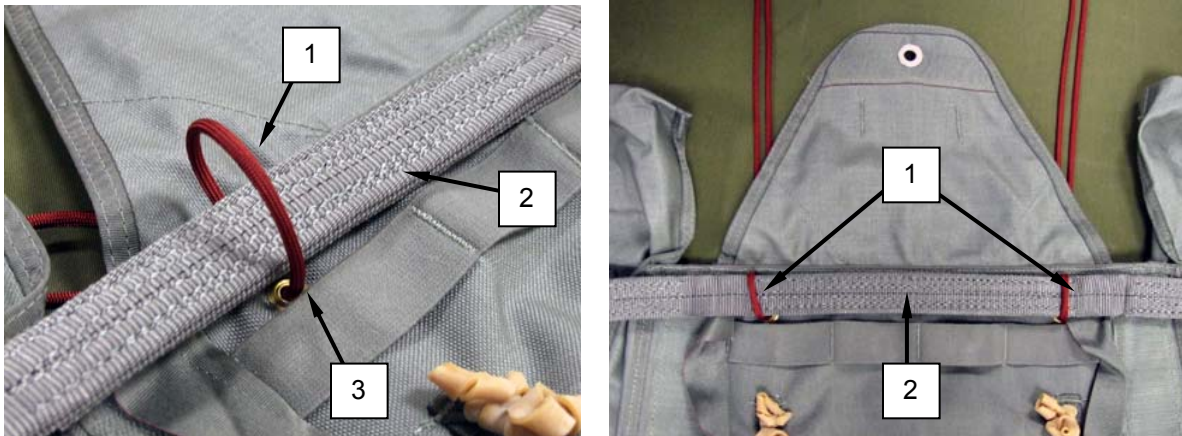

Figure 63. Routing Type III Nylon Cord (Red) Through Lower Grommet and Over Spreader Bar.
4. Route each Type III nylon cord (RED) (Figure 63, Item 1) over the spreader bar (Figure 63, Item 2) and through the lower grommet (Figure 63, Item 3) on each side.